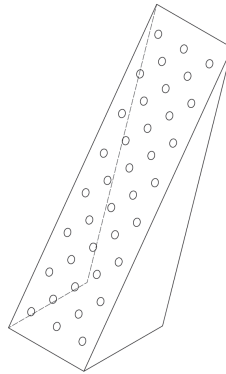

Figure 1
- 2. Fold it up.** Make two 90 degree bends so that it looks like *Figure 1*.